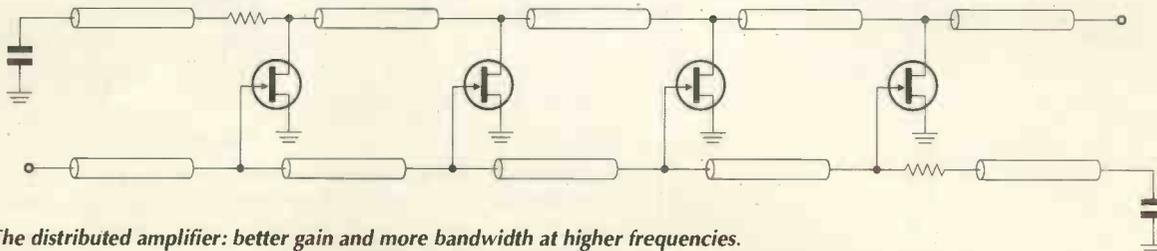

Fig. 1. The distributed amplifier: better gain and more bandwidth at higher frequencies.
**Fig. 1.** AltaVista's 'Live Topics' interactive Search Wizard. My initial search using +circuit +simulator resulted in 9000 hits. The refined search using 'Live Topics' produced 100 high quality results.
I chose to include schematic and analog, then exclude vhd, vlsi, eda, embedded, chip, microprocessor, microcontroller and emulator. This revised search returned only 100 document pages – much more suited to my needs, Fig. 1.
GaAs fets capable of operation up to 100GHz have useful amplifier gains limited to around 10GHz. Ayasli2 has provided a simplified equivalent-circuit model for a four-stage fet travelling wave amplifier. In this circuit, microstrip lines are periodically loaded with the complex gate and drain impedances of the fets, forming lossy transmission line structures of different characteristic impedance and propagation constant, Fig. 1.